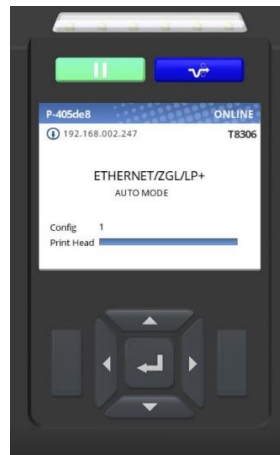

Figure 14: Printer in AUTO MODE
10. Green Status Light will show solid and now system is ready in Auto Mode. Refer to Figure 14: Printer in AUTO MODE below.